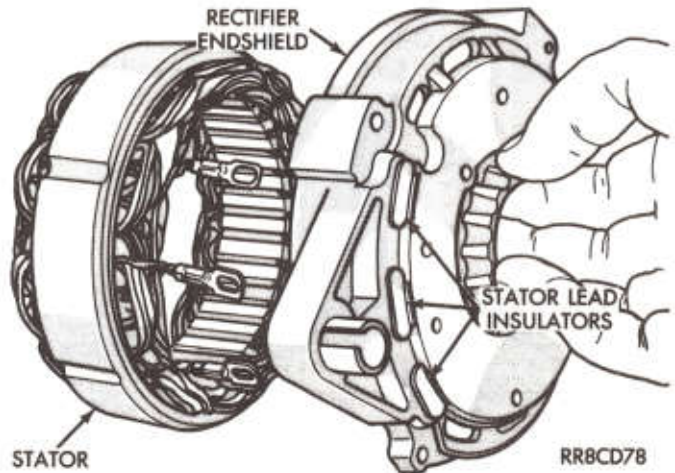

Fig. 10—Separate Stator from End Shield
(8) Separate stator from the rectifier end shield (Fig. 10).